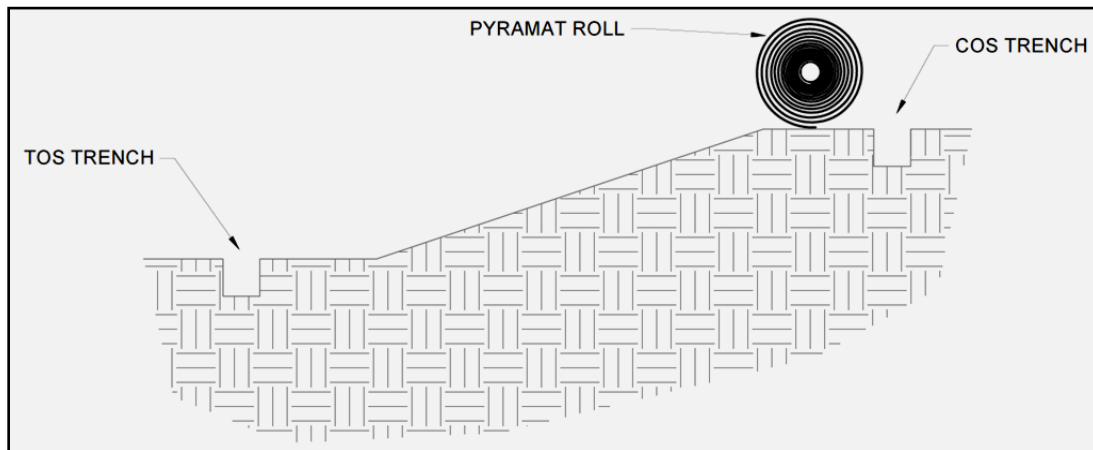
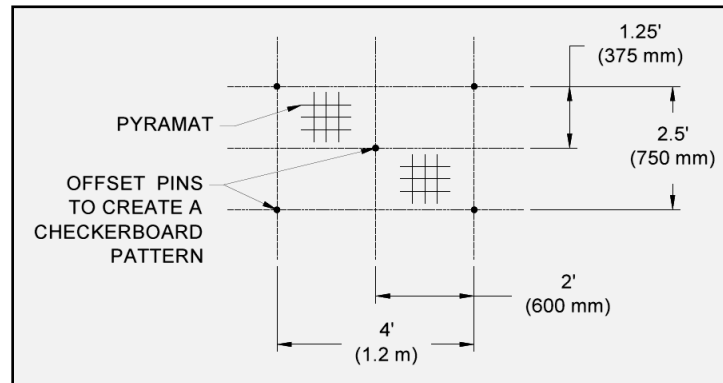
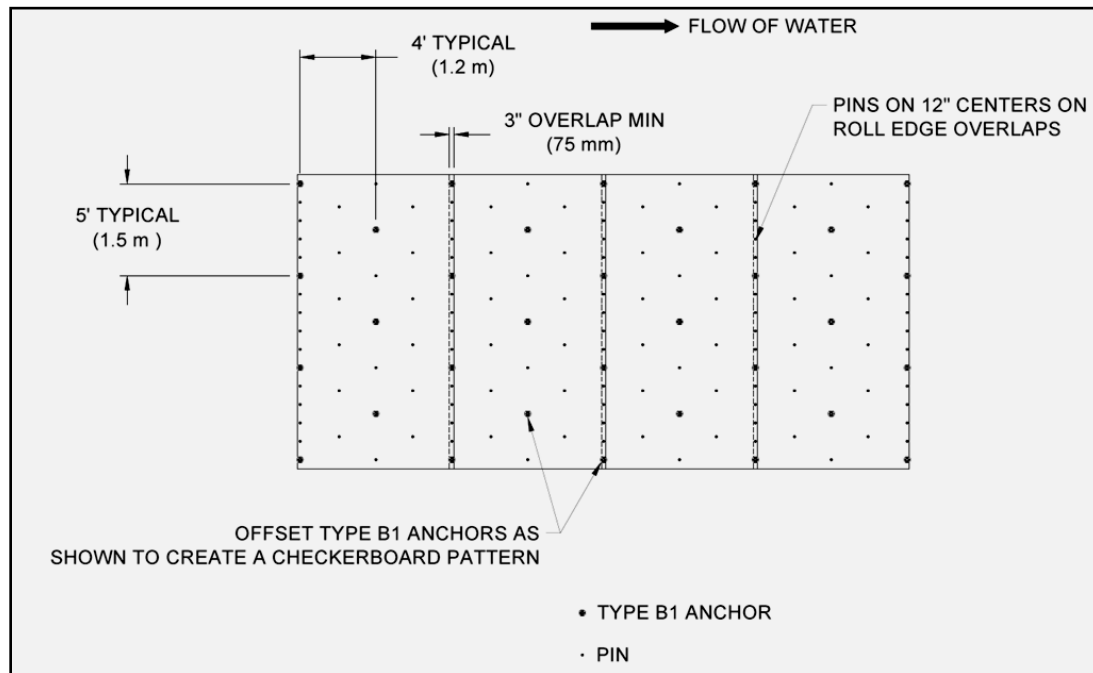
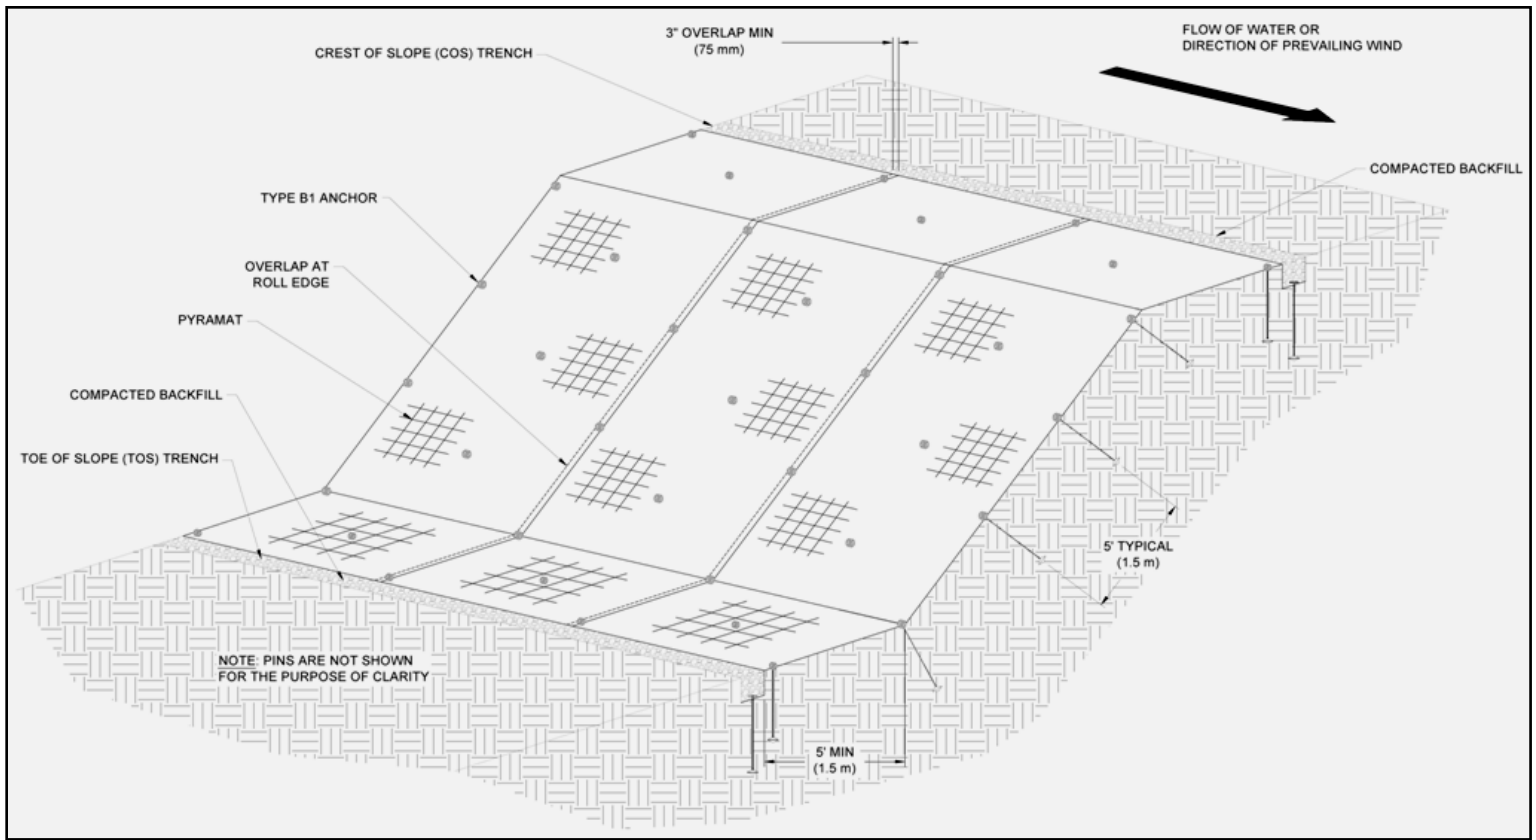

Figure 12: Crest of Slope (COS) Trench Alignment
Figure 16: Example Pin Pattern
Figure 17: Example of PDEA Pattern - 0.5 Anchors/yd²
Figure 22: Completed Slope Isometric View
2. Starting at the COS trench, lay Pyramat roll so that the roll ends points towards the crest of the slope (Figure 12), with a 3 inch (75 mm) overlap created at adjacent panel edge locations. Ensure that adjacent panel edges maintain a minimum 3 inch overlap during *Pyramat Laydown*. (Figure 17)
6. Secure Pyramat panels in place using pins and PDEAs across the slope surface according to the project's engineered design. Pin and PDEA placement should reflect a staggered checkerboard pattern across the slope surface for best results (Figure 16 and Figure 17).
- Roll edges shall be overlapped a minimum of 3 in (75 mm) with pins placed on 12 in (300 mm) centers in between PDEAs on 5 ft (1.5 m) centers (Figure 17).
9. Continue to work down the length of the slope by repeating steps 1 through 8 overlapping each adjacent Pyramat panel by 3 inches (75 mm) (Figure 17). The last Pyramat panel should terminate on the Slope Armoring Edge (SAE) with pins on 12 in (300 mm) centers in between PDEAs on 3 ft (0.9 m) centers. At a minimum, Pyramat panels should be pinned entirely across the slope surface, pins and PDEAs should be installed in the trenches, and the trenches should be backfilled and compacted at the end of each day to minimize rework in the case of a major rain event. Specific project conditions may warrant further evaluation of installation order for ease. An example isometric view (Figure 22) of a slope armored with ArmorMax can be seen below for overall reference. Consult Propex Engineering Services at (423) 553-2450 with any questions that you may have.